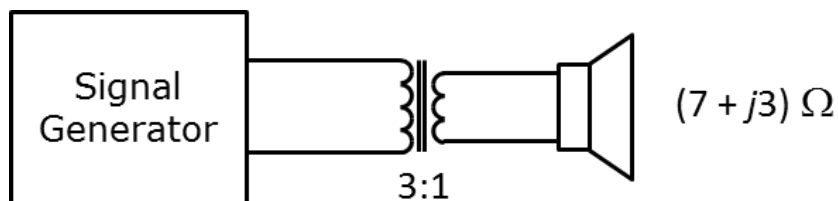

Fig. Q.3
3. A loudspeaker has an impedance of $(7 + j3) \Omega$ at a particular frequency. If the loudspeaker is to be driven from a signal generator via a transformer with a turns ratio of $3:1$ as shown in Fig. Q.3, what will be the impedance of the loudspeaker referred to the primary of the transformer, measured at that frequency? Express your answer in Cartesian form, and hence state the magnitude of the impedance. Assume that the transformer acts as an ideal transformer.